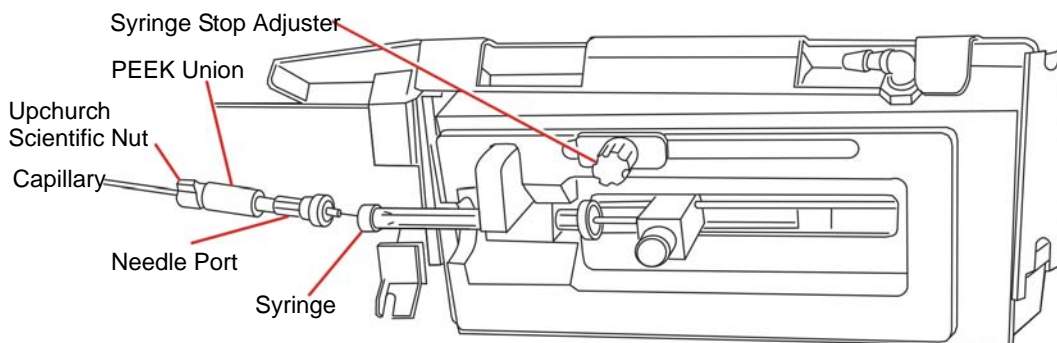

Figure C-1 Syringe Pump
2. Mount the syringe onto the pump (Figure C-1).